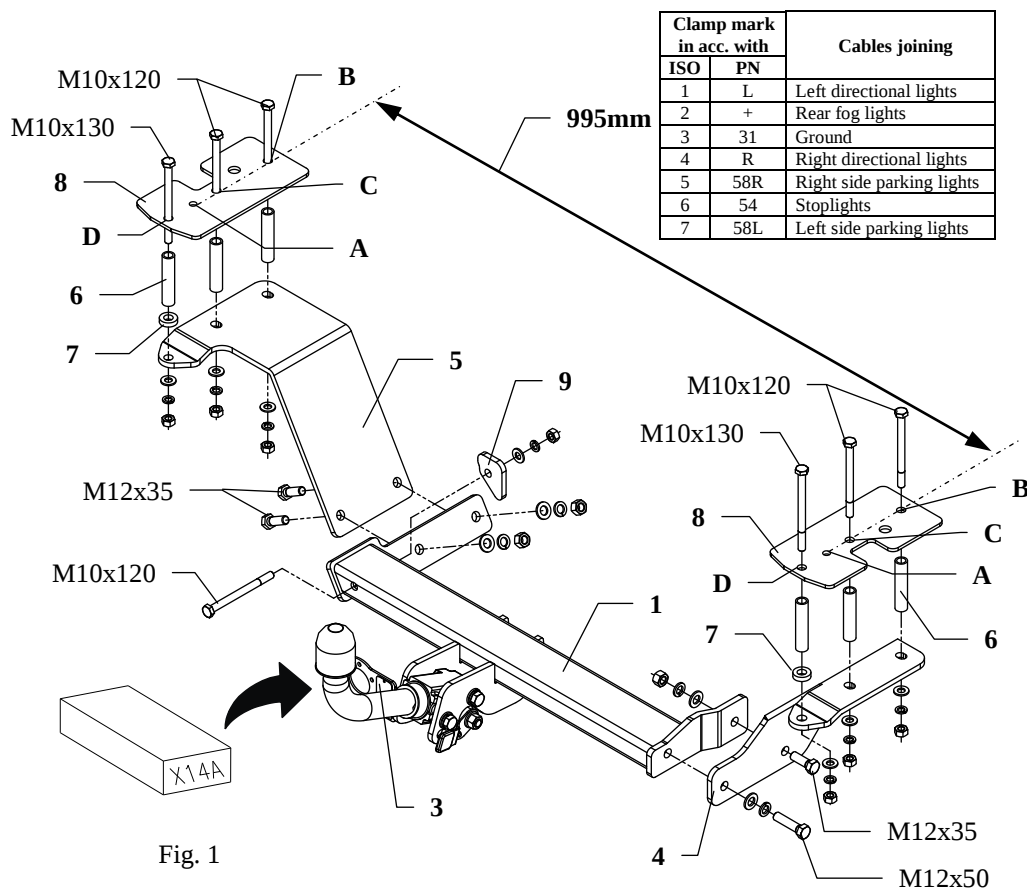
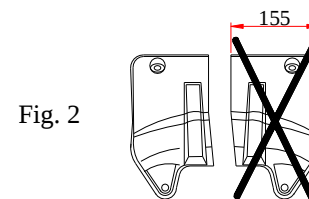

Fig. 1
Fig. 2
3. Fish-plates (pos. 8) put in this way so holes A agree with holes after luggage holders disassembly. Arrange fish-plates parallel with chassis lines and according dimension from figure 1. Next through holes B and C drill holes using bit $\varnothing 11\text{mm}$ and through holes D drill holes using bit $\varnothing 18\text{mm}$.
4. Through holes D put distance sleeves $\varnothing 17$ (pos. 6), put fish-plates pos.8 at the end put bolts M10x120mm (pos.13) and M10x130mm (pos. 12). See figure 1.
- on the left side – on protruding bolts put left bracket (pos. 5). Put distance sleeves pos. 6 before! Twist on..
- NOTE!** Use thick washer $\varnothing 25 \times 6\text{mm}$ (pos. 7) on hole D (see figure 1).
- on the right side – on protruding bolts put right bracket (pos. 4). Put distance sleeves pos. 6 before! Twist on loosely.
6. Between installed side brackets (pos. 4 and 5) put main bar of the towing hitch (pos. 1) and fix using bolts M10x120mm, M12x35mm and M12x50mm. See figure.
7. Reassemble thermal shield after cut out fragment according to figure 2.
9. Fix body of the automat and place tow-ball according to supplied instruction. Note! Remember to place socket plate (pos. 3) as shown on the drawing 1.